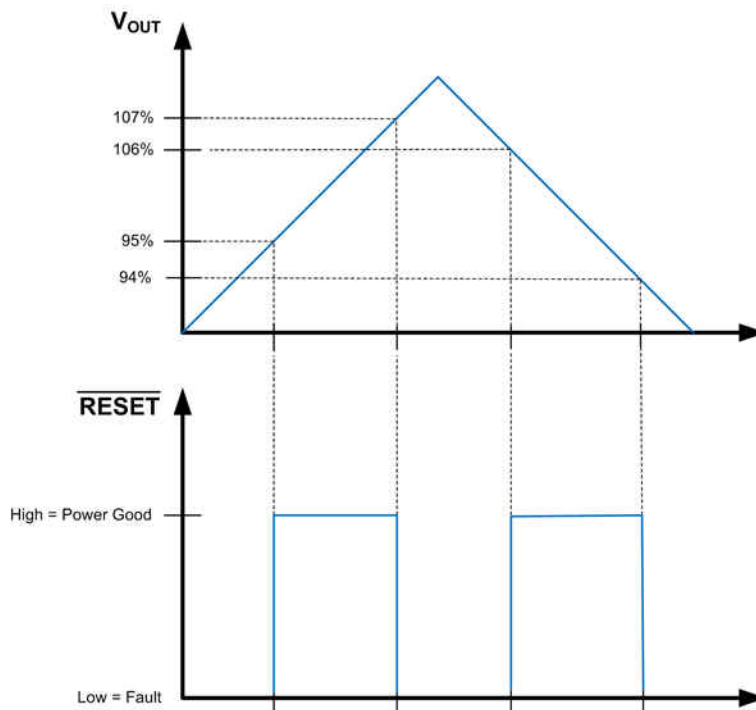
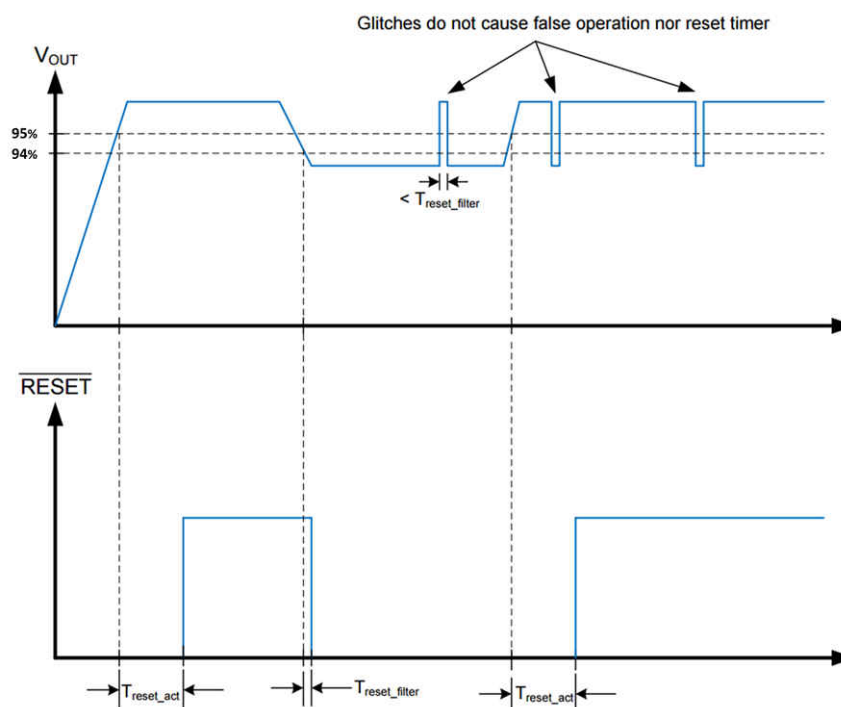
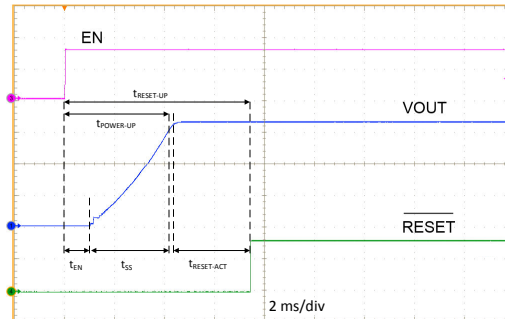

Figure 8-2. Static RESET Operation
Figure 8-3. RESET Timing Behavior
図 8-4. Typical Start-Up Waveform
- A delay has been added between the point at which the output voltage is within specified limits and the flag asserts Power Good. A glitch filter prevents false flag operation for short excursions in the output voltage, such as during line and load transients. See Figure 8-3 and Figure 8-4 for more detail.
Because the $\overline{\text{RESET}}$ comparator and the regulation loop share the same reference, the thresholds track with the output voltage. When EN is pulled low, the $\overline{\text{RESET}}$ flag output is forced low. When the device is disabled, $\overline{\text{RESET}}$ remains valid as long as the input voltage is ≥ 1.5 V. $\overline{\text{RESET}}$ operation can best be understood by reference to Figure 8-2 and Figure 8-3. Output voltage excursions lasting less than $T_{\text{RESET-filter}}$ do not trip $\overline{\text{RESET}}$. Once the output voltage is within the prescribed limits, a delay of $T_{\text{RESET-act}}$ is imposed before $\overline{\text{RESET}}$ goes high. This enables tighter tolerance than is possible with an external supervisor device while also expanding the system allowance for transient response without the need for extremely accurate internal circuitry.
A typical start-up waveform is shown in 図 8-4 along with timing definitions. This waveform indicates the sequence and timing between the enable input, output voltage, and $\overline{\text{RESET}}$. From the figure, the user can define several different start-up times depending on what is relevant to the application. 表 8-1 lists the timing definitions and typical values.